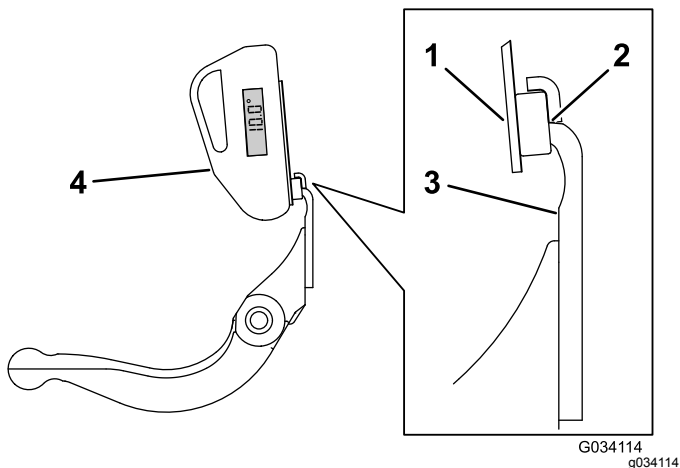

Figure 22
3. Place the angle-indicator mount on the edge of the bedknife so that the edge of the magnet mates with the edge of the bedknife (Figure 22).
4. Place the angle indicator on the mount as shown in Figure 22.